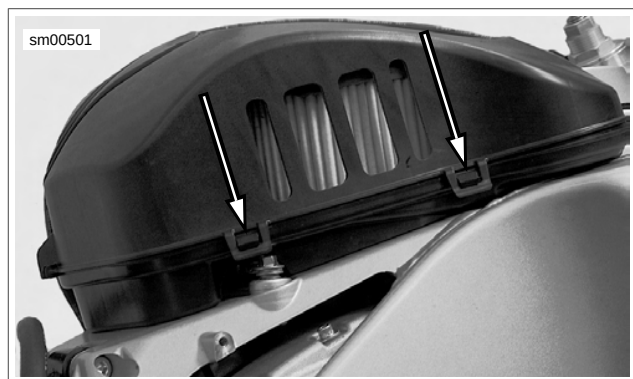

Figure 1-40. Air Cleaner Cover Latches
4. See Figure 1-40. Unlatch six latching tabs and remove air cleaner cover from baseplate.